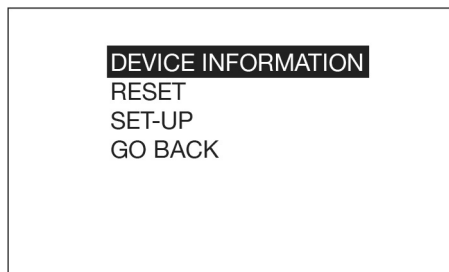

FIG. 36
2. When the screen is highlighted (Fig. 36), press the ENTER button on the key pad.